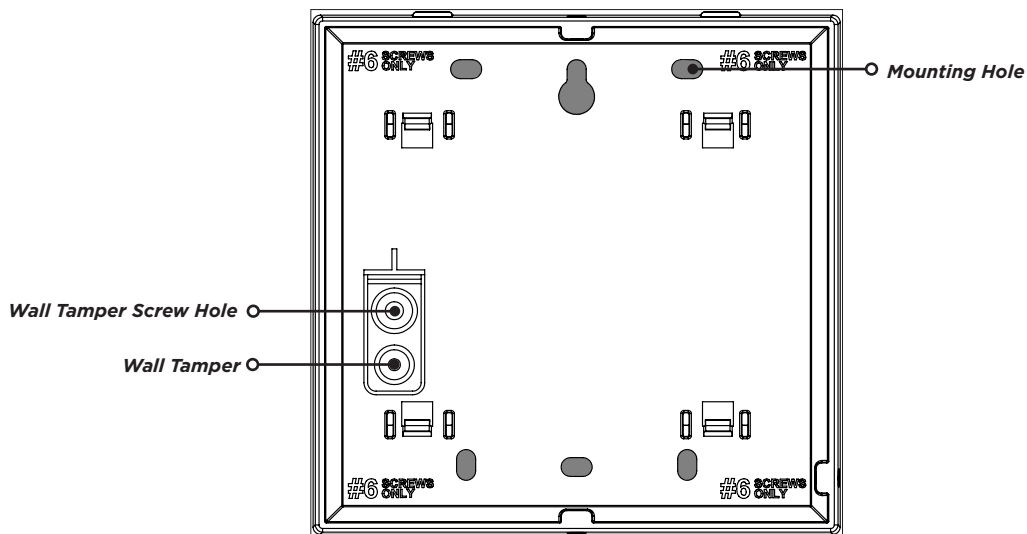

Figure 3: Wall Tamper
2. Mount the housing on a flat wall. Use one of the provided screws to anchor the housing through the wall tamper screw hole. See Figure 3 for the wall tamper screw hole location.